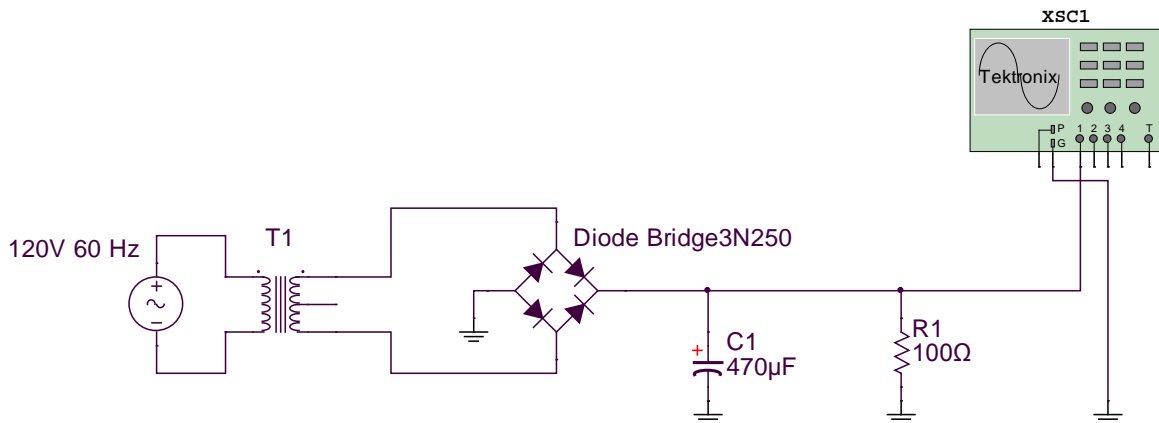

Fig. 1 Faulty AC Circuit
1. Referring back to Figure 1 and the faulty output, create a hypothesis explaining the symptoms of the faulty circuit. *(Example: A shorted resistor in a series circuit can affect the voltage drops at other resistive elements in the circuit.)*